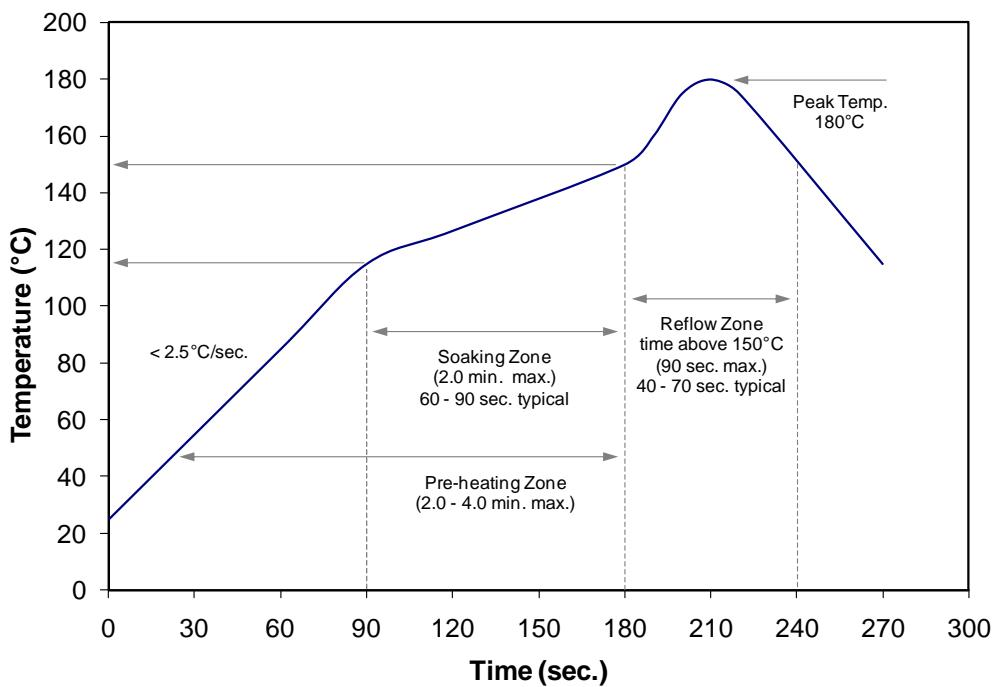

Figure 3: Reflow soldering profile for low temperature lead free soldering.
4. Use low temperature solders. LED Engin recommends 58Bi-42Sn (wt.%) Solder. See Reflow Soldering Profile Figure 3.